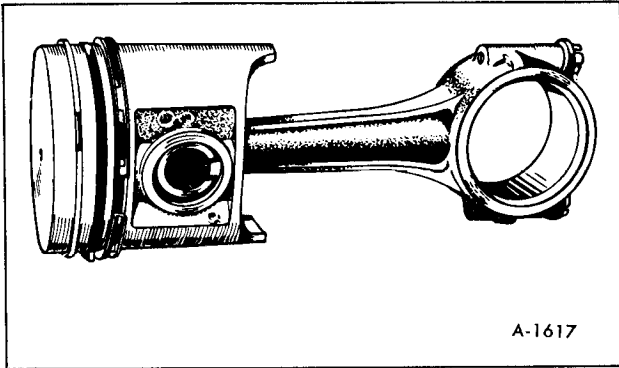

Figure 28—Piston Assembly
**NOTE:** The connecting rod numbers should always face away from the camshaft or bottom side of engine. See Figure 28.